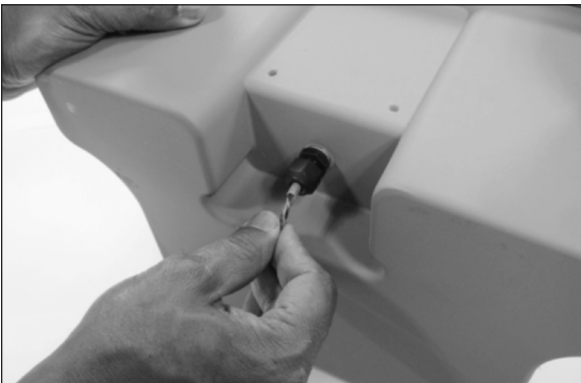

Figure 9.26 - Push pulse output cable back into the meter
13. Push the gray pulse output cable back into the meter until the exposed wires are close to the cable gland nut as shown in Figure 9.26.